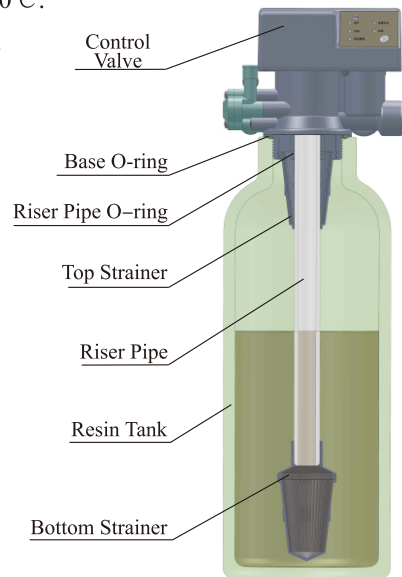

Figure 1-1
①Install control valve
a. As the Figure 1-1 shows, select the riser pipe with 26.7mm OD, glue the riser pipe to the bottom strainer and put it into the mineral tank, cut off the exceeding pipe out of tank top opening and make external rounding.